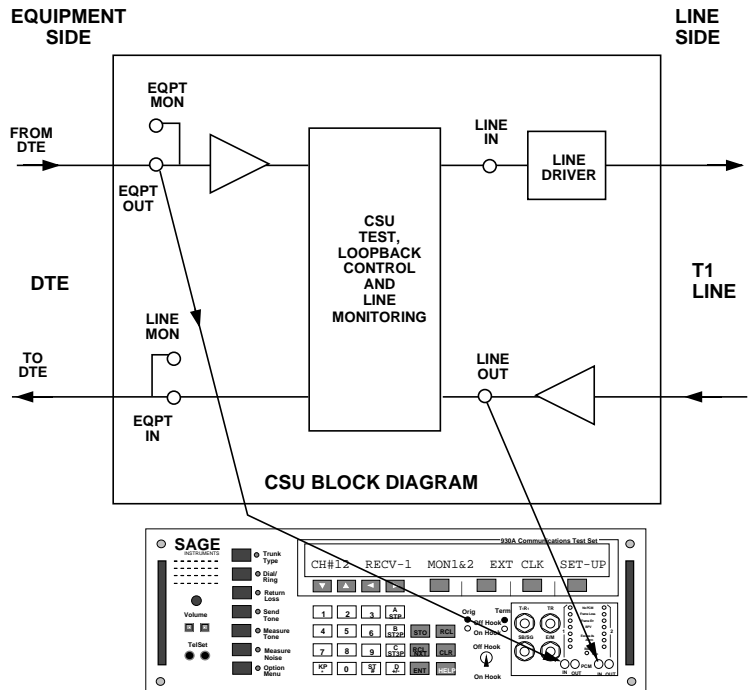

Figure 4-5
2. Plug test cords into the two inputs of the **935AT** and then plug the other ends of these test cords into the **LINE OUT** and **EQPT OUT** jacks on the **CSU**. Refer to **Figure 4-5**.